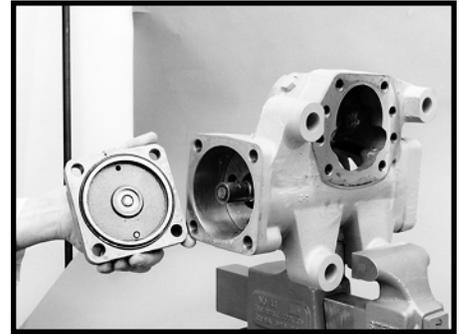

Figure 57
17. Remove the end cover (37). Some fluid will drain. SEE FIGURE 57.
**NOTE: The worm shaft adjusting screw and sealing nut and poppet adjusting screw and sealing nut do not have to be removed from the end cover (37) unless apparent fluid leaks at the adjusting screws indicate the sealing nuts and or screws be replaced.**